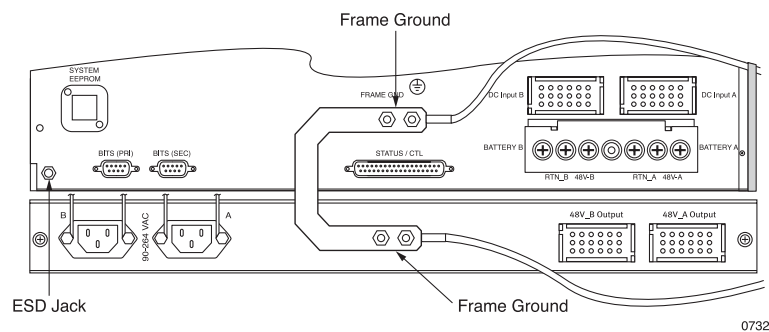

Figure 9 C-Bracket and Ground Cable Connections
2. Secure the connection with a pair of lug nuts on each back panel; with the torque wrench, tighten the lug nuts to a maximum torque of 15.0 inch-lbs (1.7 Newton-meters), see Figure 9.